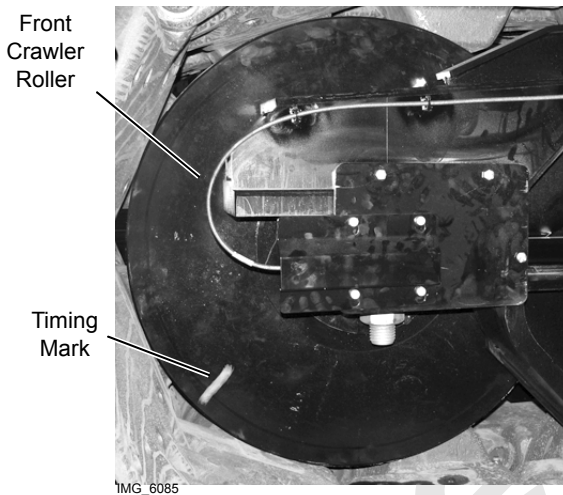

FIGURE 2-19
1. Put a timing mark on the front crawler roller (Figure 2-19).